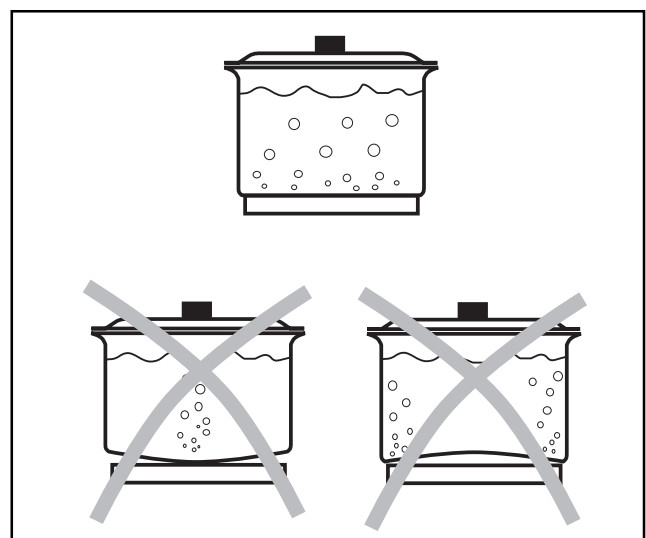

Fig. 5
- they should have a flat base to ensure good contact with the plate (see Fig. 5).